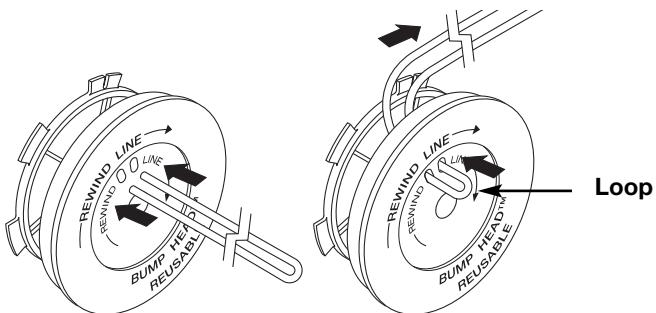

Fig. 20
6. Take approximately 20 feet (6 m) of new trimming line, loop it into two equal lengths. Insert each end of the line through one of the two holes in the inner reel (Fig. 20). Pull the line through the inner reel so that the loop is as small as possible.